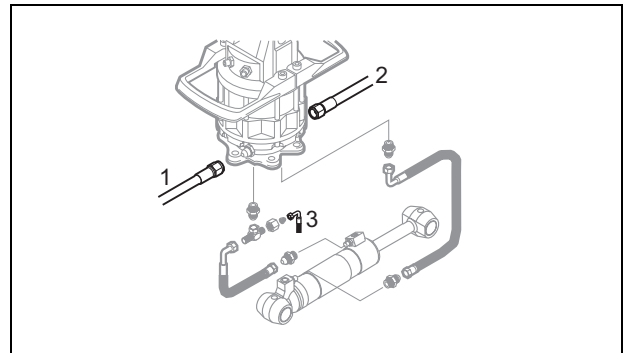

Fig. 24 Connect the hydraulic hoses for the grapple saw to the rotator
6. Connect the hydraulic hoses for the grapple saw to the rotator. See Fig. 24.